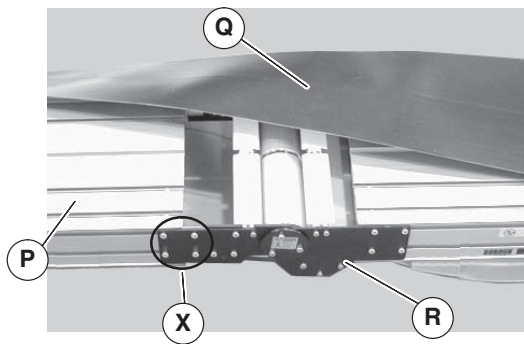

Figure 7
3. Roll out conveyor belt (Figure 7, item Q). Loosen (4) screws (X) on both sides of knuckle (R). Slide frame (P) into knuckle (R). Tighten screws (X) to 60 in-lb (7 N-m) on both sides of conveyor.